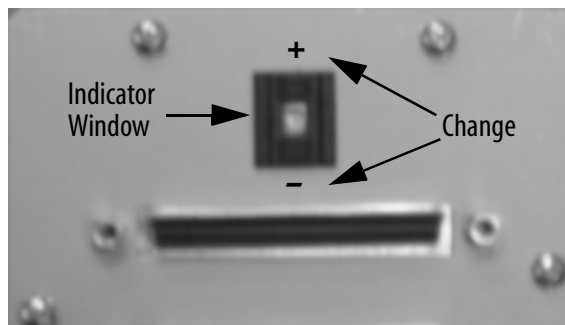

Figure 2-4 SCSI ID changer.
1. Locate the SCSI ID on the rear panel of the DASTape, just above the terminator ports. The current ID setting is shown in the indicator window (Figure 2-4).
2. Use an object with a small pointed tip (such as a stylus or a pen) to press the plus (+) on the bottom or the minus (-) at the top to change the SCSI ID setting (Figure 2-4).